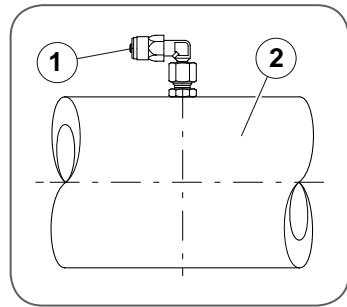

Fig. 7 - Connecting bracket on the axle tube
1. Carefully remove the lock screw from the axle tube see ► *Fig. 7*, (item 2).
3. Screw the connecting bracket (item 1) into the thread and tighten to the prescribed tightening torque, ► *page 63* align and tighten with counter nut.